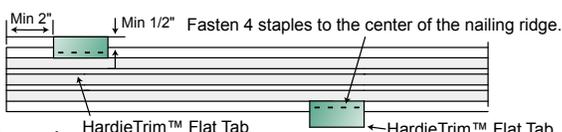

Figure 1
**Step 1:** Attach HardieTrim Flat Tabs to the back side of the trim using four(4) 18 ga. 1/2"L x 1/4"W narrow crown corrosion resistant staples, equally spaced in one row, positioned no closer than 1/2" from trim edges using a pneumatic staple gun. (Figure 1)